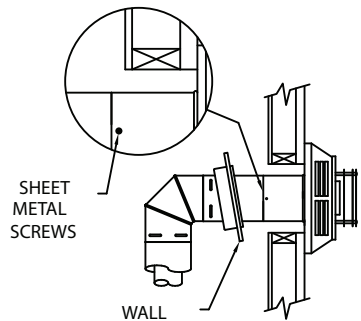

Figure 8
(1) The four wood screws provided should be replaced with appropriate fasteners for use on brick, concrete, block, or other types of sidings.
(2) For buildings with vinyl siding or other surfaces, the Vinyl Siding Standoff or Counter Flashing is available.
**Step 5.** Before connecting your horizontal Pipe Sections to the Horizontal Termination Cap, slide the Wall Thimble Cover over the Pipe Section nearest the interior side of wall (**Fig. 8**).